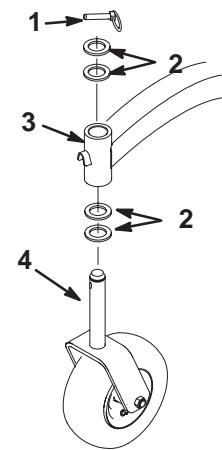

Figure 69
2. Remove the locking pin and spacer(s) from the top of the caster wheel fork (Fig. 69).
6. Inspect the caster wheel fork for wear and replace if necessary (Fig. 69).
7. Slide the caster wheel fork through the bushings in the mounting tube. Replace the spacer(s) onto the fork and secure with the retaining ring (Fig 69).